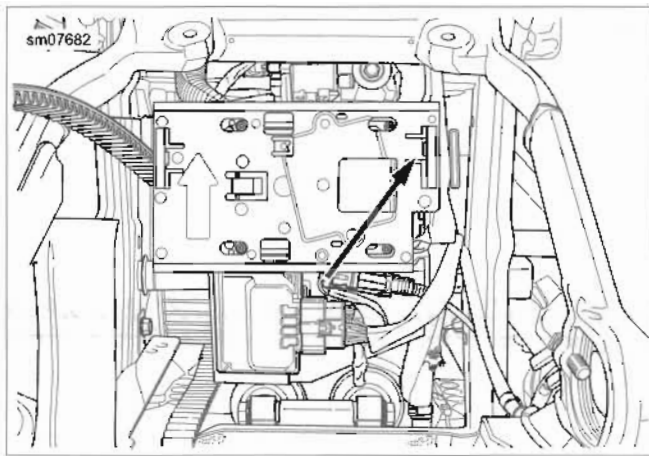
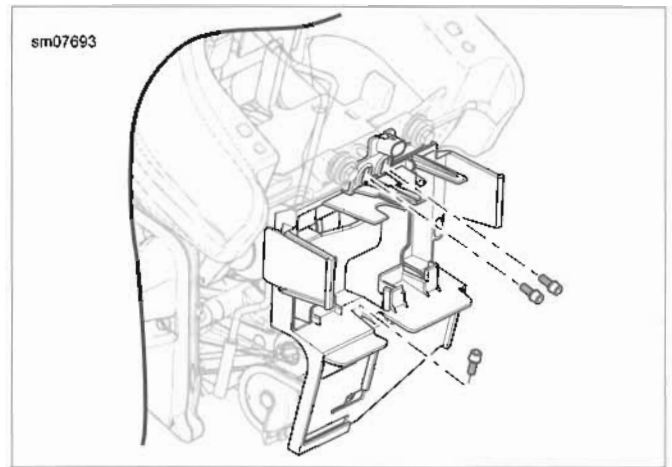
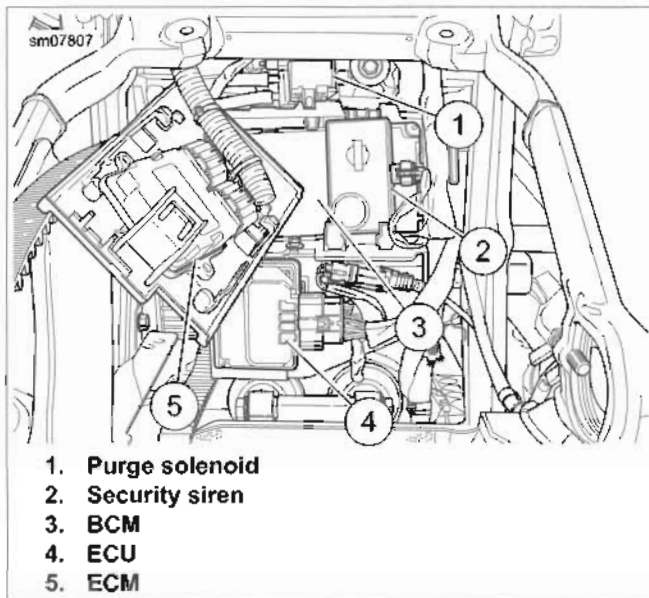

Figure 7-3. ECM
Figure 7-5. Rear Electrical Panel Fasteners
Figure 7-4. Rear Electrical Panel
4. See Figure 7-3. Press in on tab and pull ECM panel away from latch.
5. See Figure 7-4. Remove security siren (2), BCM (3), ECU (4) and ECM with panel (5).
6. Detach purge solenoid (1) from rear electrical panel.
7. See Figure 7-5. Remove three fasteners securing rear electrical panel to frame.
2. See Figure 7-5. Install three fasteners securing rear electrical panel to frame. Tighten to 36-60 in-lbs (4.1-6.8 Nm).
3. See Figure 7-4. Attach purge solenoid (1) to rear electrical panel.
4. Install BCM (3), security siren (2), ECU (4) and ECM (5) with panel.
5. See Figure 7-3. Push ECM panel forward and engage latch.